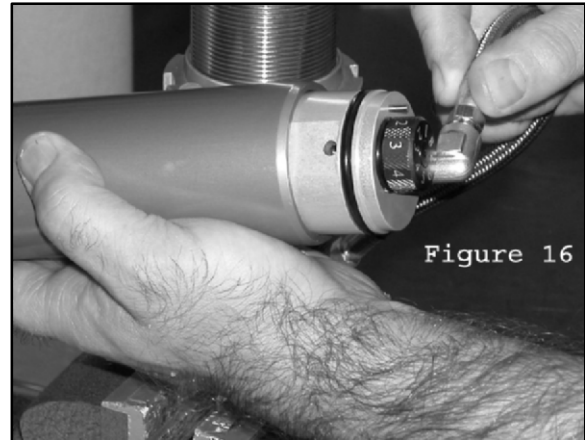

Figure 16
39. Check the bore of reservoir for any visible signs of wear or damage. Insert the CD housing into the end of the reservoir with the large chamfer on outside edge (Some reservoirs will not have this chamfer. Orientation is not critical on these reservoirs). (Fig. 16) Push the CD housing far enough into the reservoir to expose the CD housing retaining ring groove. Insert the retaining ring into groove. Check to make sure ring is properly seated. Pull CD housing out of reservoir until it engages securely with retaining ring.